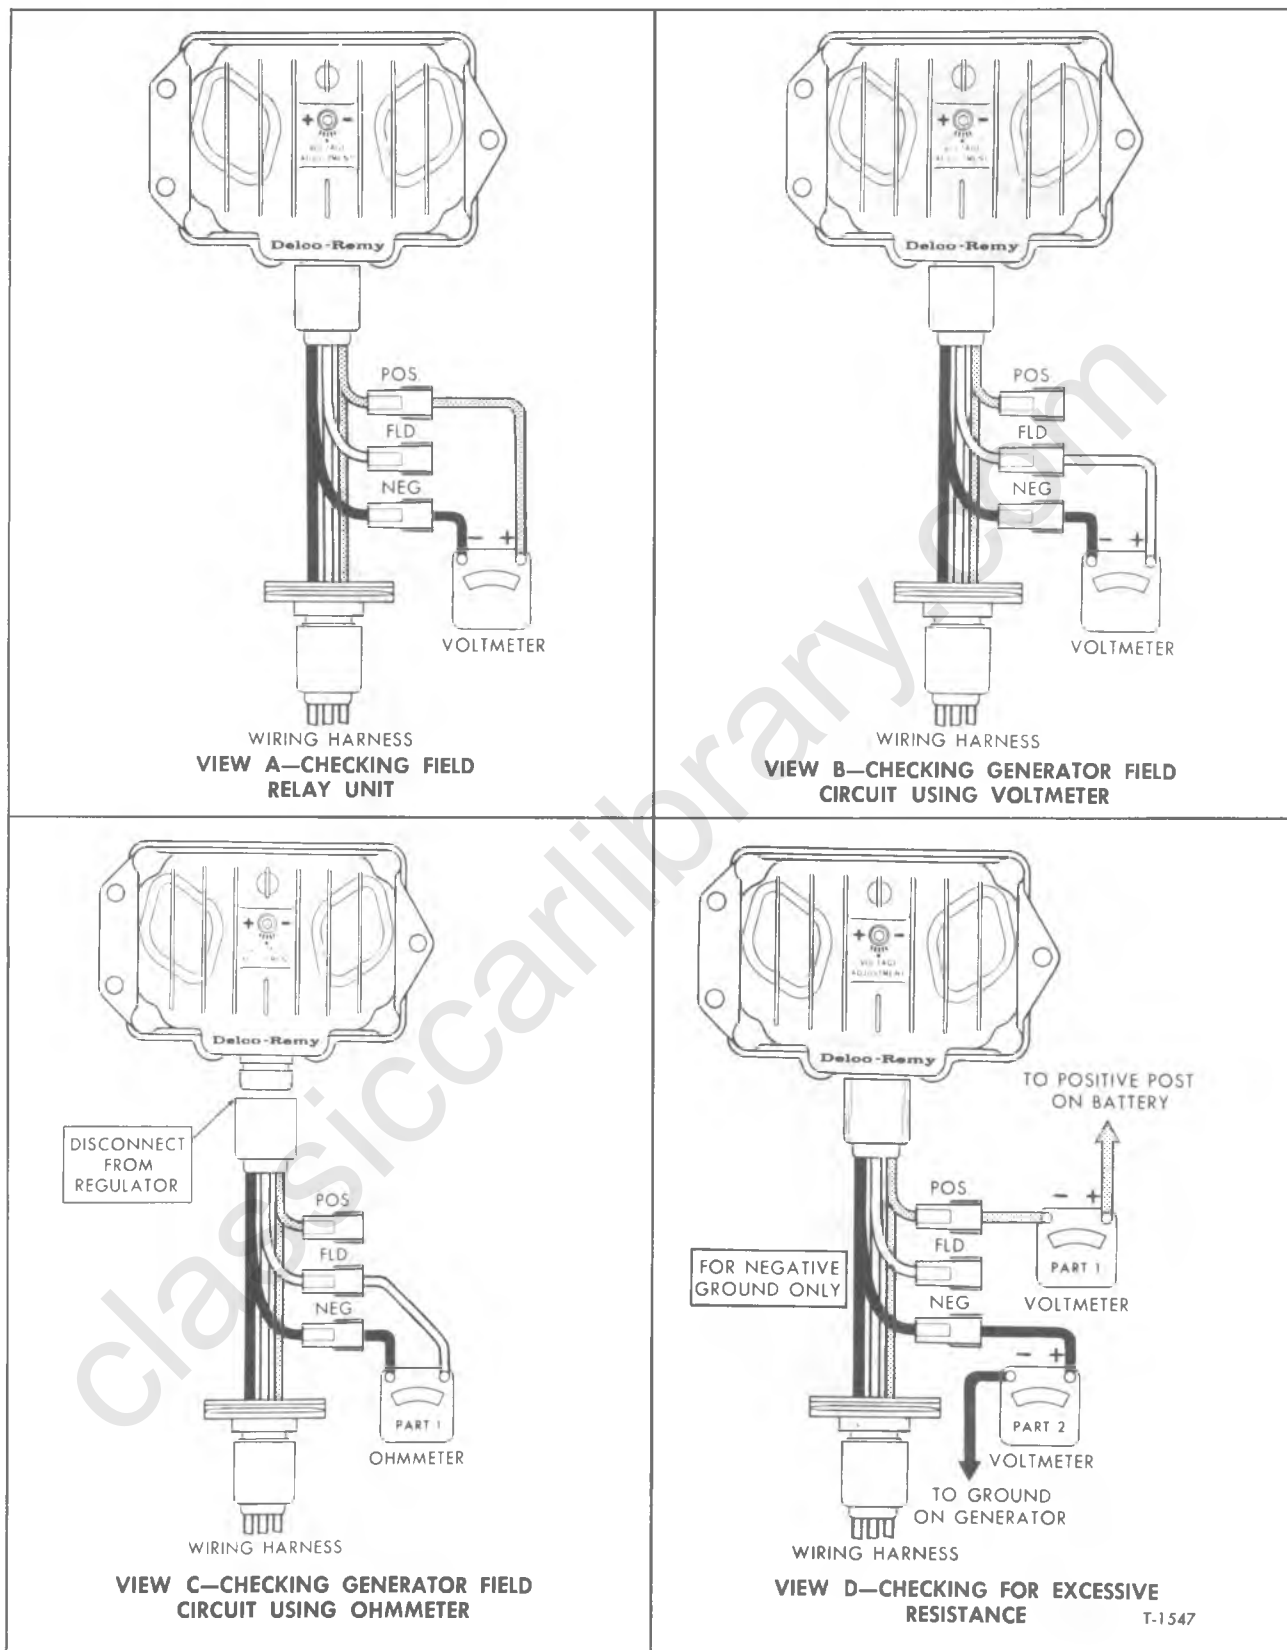

Figure 11—Using Adapter (J-21600) To Check Generator Output (9000590 Type Regulator)
1. Connect voltmeter to a test adapter as shown in View A, figure 11.
1. Connect a voltmeter to the test adapter as shown in View B, figure 11.
c. Connect an ohmmeter to the adapter as shown in View C, figure 11.
g. To check the regulator, connect a voltmeter as shown in View A, figure 11, and operate the engine at moderate speed. If the voltage is uncontrolled and increases with speed to values above the specified setting range, repair or replace the regulator.
1. Connect a voltmeter as shown in Part 1 and Part 2, View D, figure 11.
1. Connect a voltmeter to the adapter as shown in View A, figure 11.